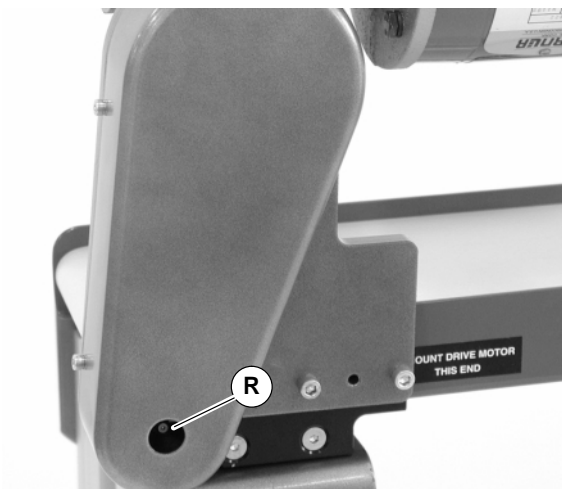

Figure 7
2. Lubricate pulley bearing through outboard drive shaft grease fitting (R of Figure 7).